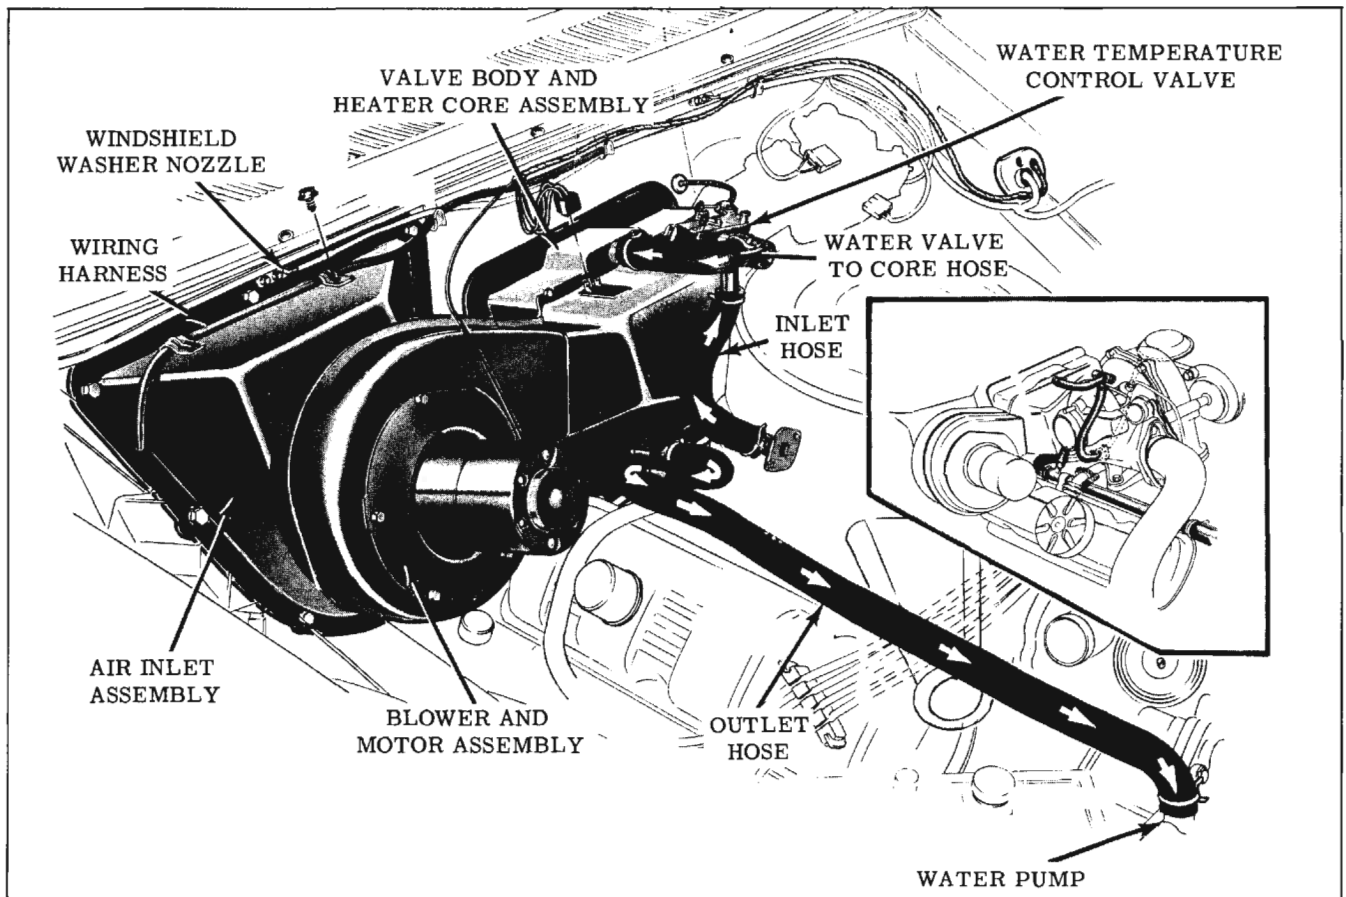

Fig. 15-108 Heater Hose Routing
2. Disconnect lower heater core water hose. (Fig. 15-108)
2. Remove five blower to air inlet assembly attaching screws from blower mounting flange. (Fig. 15-108)